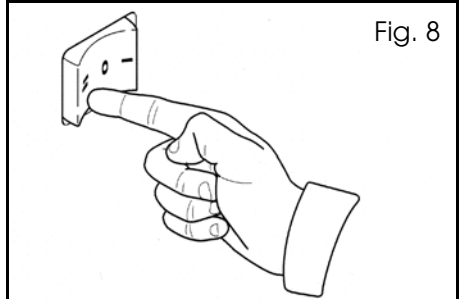

Fig. 8
2. Set the Hot / Cold selector switch (I / O/II) to (II), to start the power washer operating with hot water. See Fig. 8.